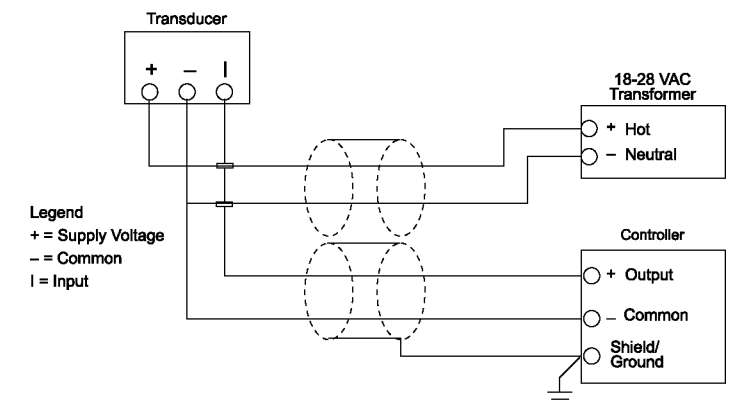
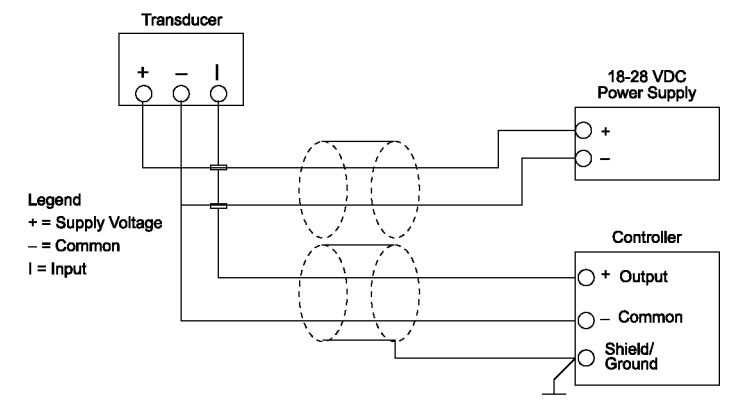

Figure 1 - Wiring Diagram for 24 VAC Supply Configuration
Figure 2 - Wiring Diagram for 24 VDC Supply Configuration
**Wiring:** Use maximum 12 AWG wire for wiring terminals. Use flexible 1/4" O.D. poly tubing for main and branch pneumatic connections. Refer to **Figure 1** and **Figure 2** for wiring configurations, **Figure 3** for terminal location and designation, and **Figure 4** for dip switch settings.